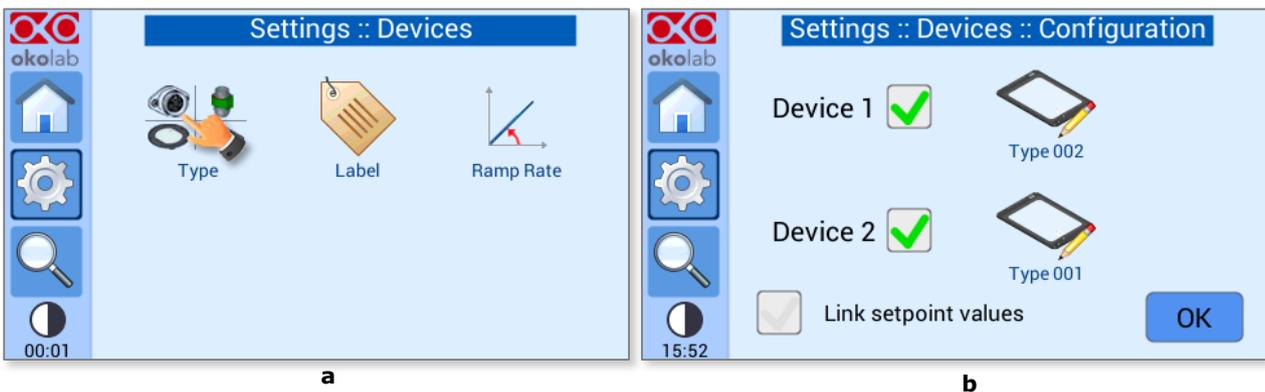

Figure 16. Devices submenu – Configuration submenu (a -b).
- 1 Press on *Type* icon  to enter the Device configuration submenu, see Figure 16(a). Flag the box to select how many devices you want to connect, see Figure 16 b).